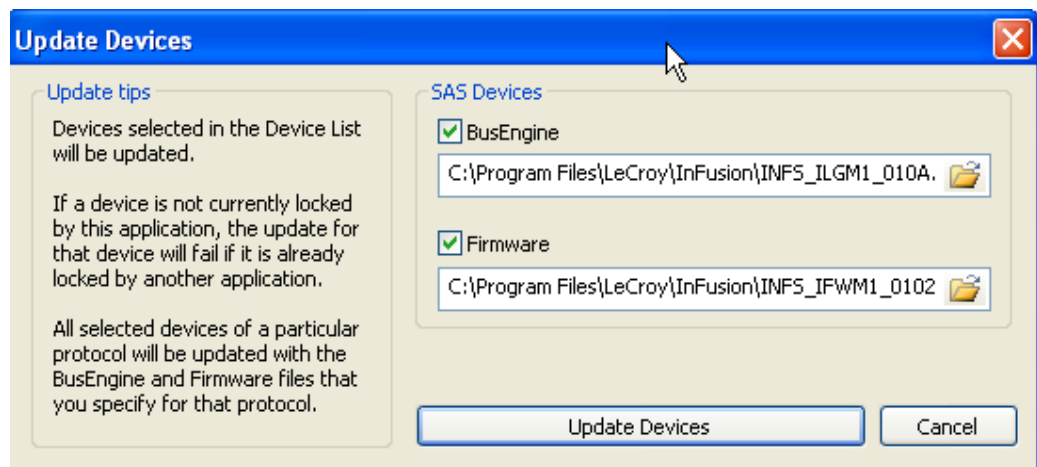

Figure 13 Update Devices Dialog Box
- Step 4** The Update Devices window closes and a progress indicator displays status of the update process (Figure 13). When update has completed, the display should reflect the updated firmware and BusEngine rev: